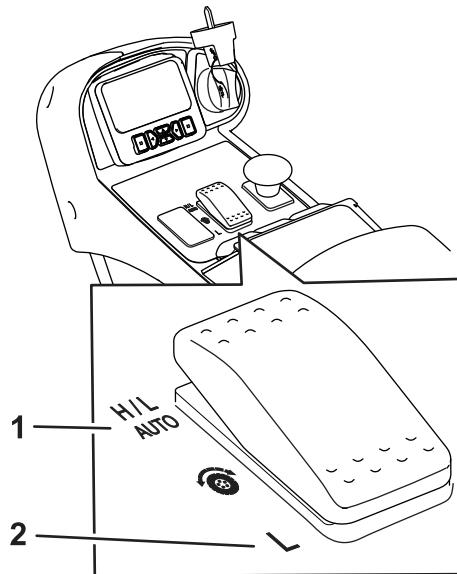

Figure 26
- Under normal operating conditions, this machine is intended to operate in the H/L AUTO position on the speed range switch (Figure 26). This position allows the machine to automatically switch between low and high speed ranges, depending on whether the machine is being used for mowing or transporting.
- When you select the Low position on the speed range switch (Figure 26), the machine will always operate in low speed range. This setting is preferable for operation in a shop area, loading or unloading from a trailer, climbing steep inclines, or any other operation where the higher traction speeds of the high speed range is not desired.
This machine is equipped with 2 traction speed ranges; low and high. The speed range switch allows you to select the following positions (Figure 26):